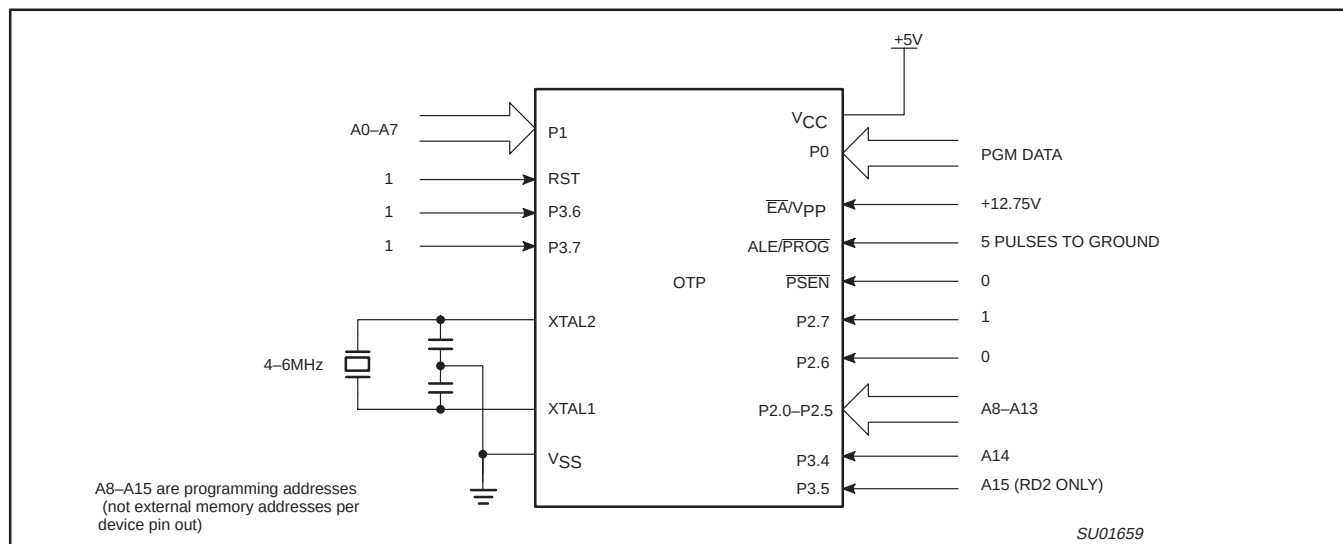
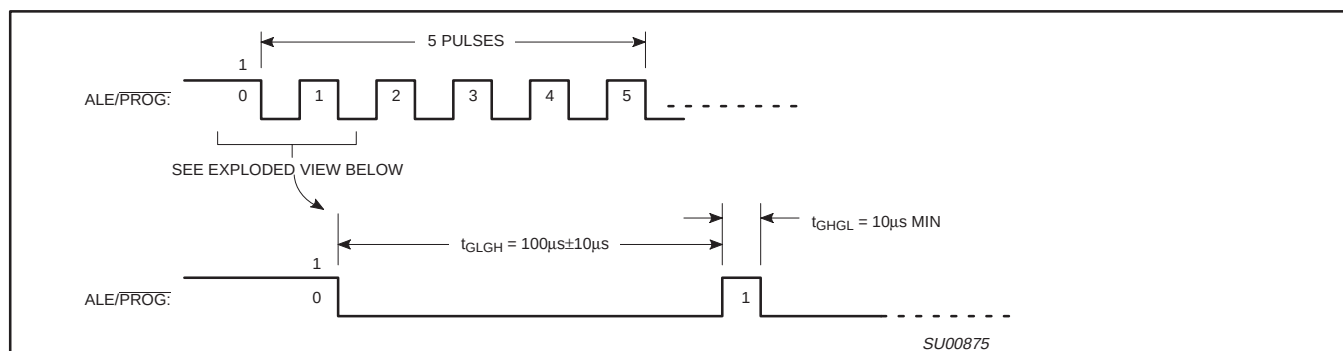
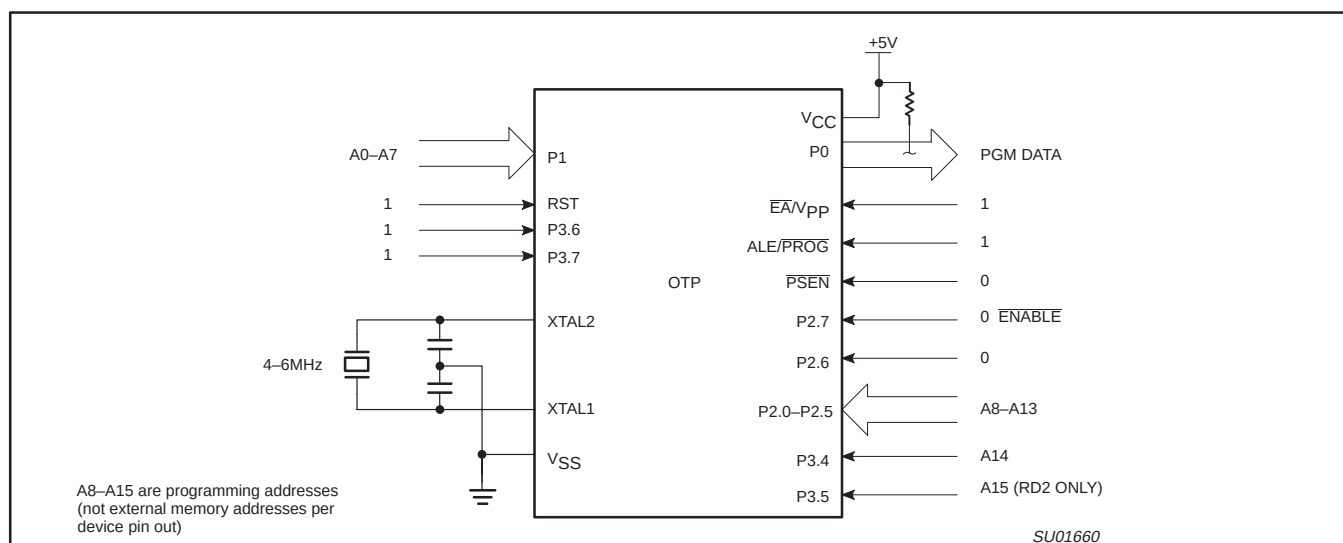

Figure 47. Programming Configuration
Figure 48. PROG Waveform
Figure 49. Program Verification
Table 8 shows the logic levels for reading the signature byte, and for programming the program memory, the encryption table, and the security bits. The circuit configuration and waveforms for quick-pulse programming are shown in Figures 47 and 48. Figure 49 shows the circuit configuration for normal program memory verification.
The setup for microcontroller quick-pulse programming is shown in Figure 47. Note that the device is running with a 4 to 6MHz oscillator. The reason the oscillator needs to be running is that the device is executing internal address and program data transfers.
The address of the EPROM location to be programmed is applied to ports 1 and 2, as shown in Figure 47. The code byte to be programmed into that location is applied to port 0. RST, $\overline{PSEN}$ and pins of ports 2 and 3 specified in Table 8 are held at the 'Program Code Data' levels indicated in Table 8. The ALE/PROG is pulsed low 5 times as shown in Figure 48.
If security bits 2 and 3 have not been programmed, the on-chip program memory can be read out for program verification. The address of the program memory locations to be read is applied to ports 1 and 2 as shown in Figure 49. The other pins are held at the 'Verify Code Data' levels indicated in Table 8. The contents of the address location will be emitted on port 0. External pull-ups are required on port 0 for this operation.
* FOR PROGRAMMING CONFIGURATION SEE FIGURE 47.
FOR VERIFICATION CONDITIONS SEE FIGURE 49.